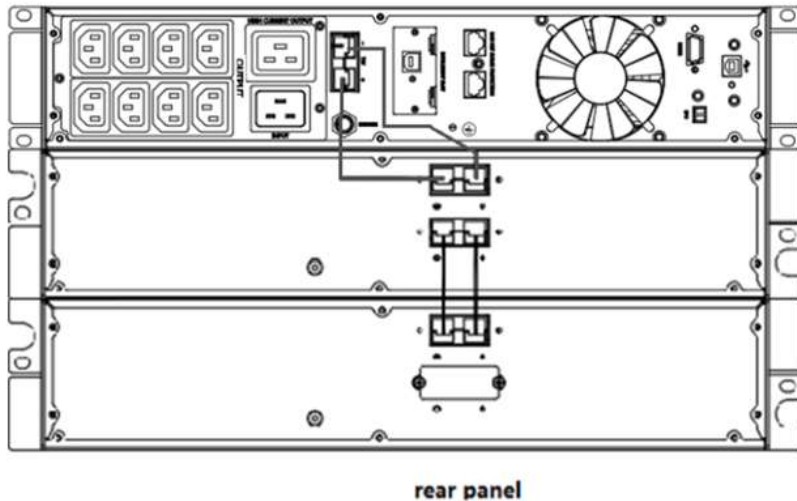

Figure 13 The installation for UPS and battery box
- The installation between UPS and EBPS can be referred to **Fig.13**
- a) Install the base, then place the RT UPS on the base one by one as Fig.13 shows.